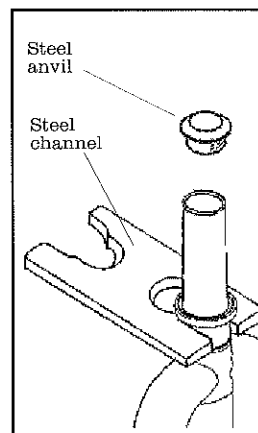

Fig. 23
1. Clamp or bolt the **steel channel** (Fig. 23) to a bench with the flanges facing up and the small opening overhanging the edge of the table.